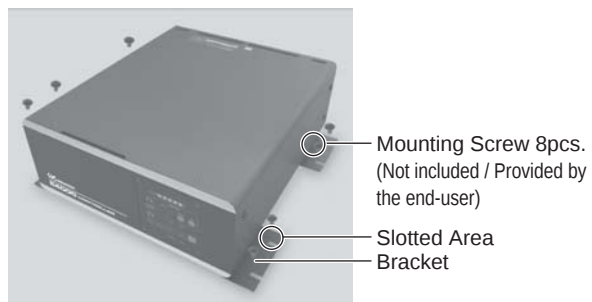

Fig. 11
- ③ Attach the CONTROLLER (Bracket's Slotted Area) to the machine using the mounting screws **(8 pcs. not included / provided by the end-user.)** (Fig. 11).